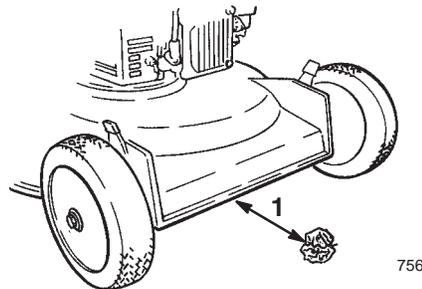

Figure 11
- Take a half sheet of newspaper and crumple it into a ball small enough to go under the deck (about 3 in. or 76 mm in diameter) as shown in Figure 11.
- Place the ball of newspaper 5 in. (12.7 cm) in front of the lawn mower (Fig. 11).
- Place the ball of newspaper 5 inches (12.7 cm) in front of the lawn mower (Fig. 11).